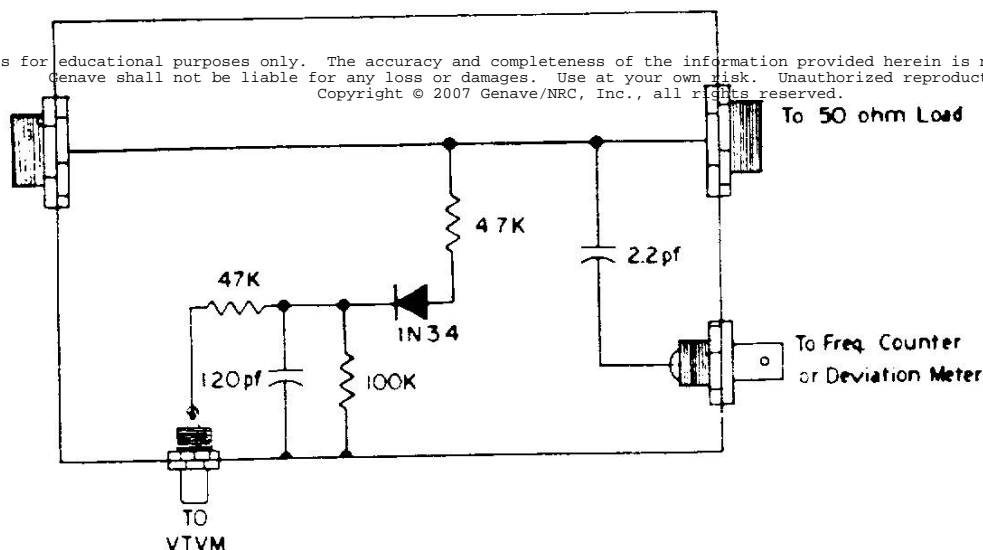

Figure 4-2. Relative Output Indicating Device
1. Attach a 50-ohm dummy load to the RF-output connector through a power meter or relative output indicating device (Figure 4-2).
4. If the relative output indicating device of Figure 4-2 is used, connect VTVM DC probe to the relative output terminal. Otherwise, observe the wattmeter or other relative output indicator.